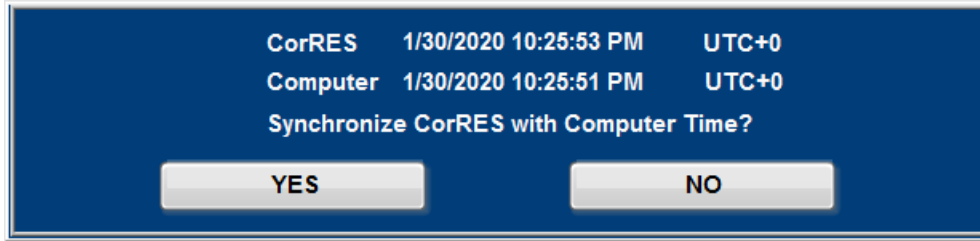

Figure 10. CorRES and computer time comparison window when starting a data log or downloading data.
The user is prompted to synchronize the CorRES time with the computer time whenever starting a data log or downloading data from the CorRES (Figure 10). Use the CorRES interface program to synchronize the CorRES clock with the connected computer clock.
3. When download is complete, the UTC time synchronization window will appear (Figure 10). Refer to “Clock Synchronization” above.